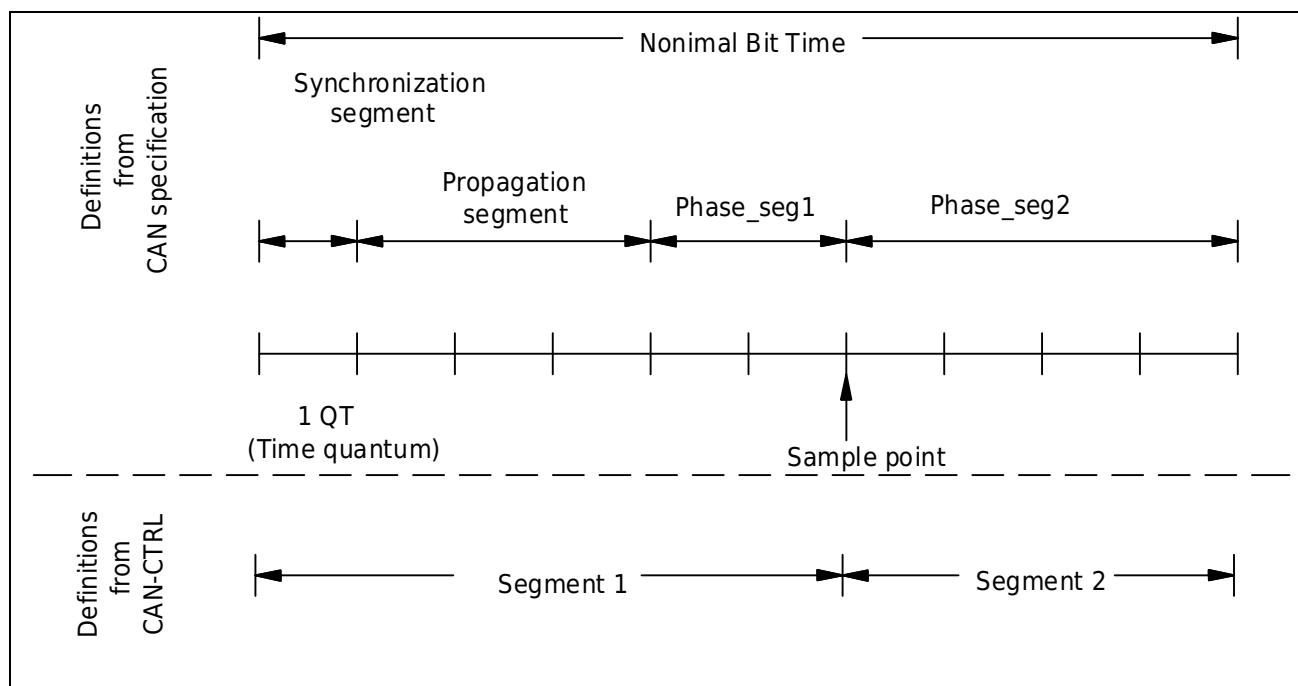

Figure 30-2 CAN bit time definition diagram
- 1) If the PRESC bit of the BT register is set to ≥ 1 , refer to the sample point shown in Figure 30-2, the sampling point is located at the dividing point between segment1 and segment2;